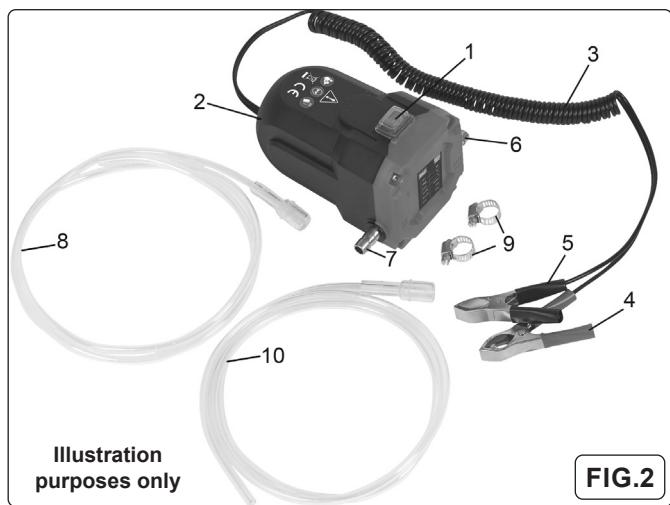

FIG.2
- 4.1.1. Remove the protective caps before attaching hoses (fig.2).